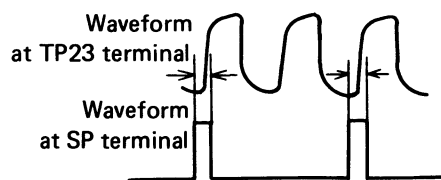

Fig. 8
1. Observe the output waveforms from SP and TP23 (Fig. 8). (Two output pulses from terminal TP23 will correspond with one pulse from terminal SP).